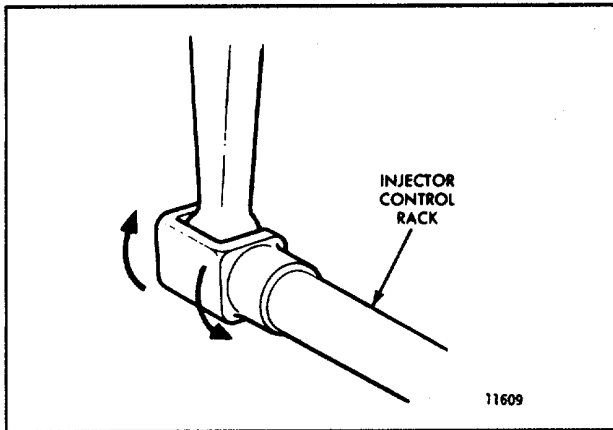
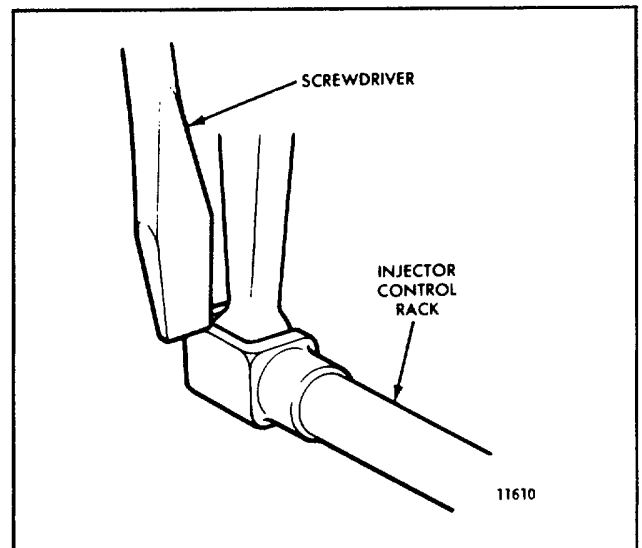

Fig. 4. - Checking Rotating Movement of Injector Control Rack
Fig. 5. - Checking Injector Control Rack "Spring"
7. To be sure of the proper rack adjustment, hold the speed control lever in the maximum speed position and press down on the injector rack with a screwdriver or finger tip and note the "rotating" movement of the injector control rack (Fig. 4). Hold the speed control lever in the maximum speed position and, using a screwdriver, press downward on the injector control rack. The rack should tilt downward and when the pressure of the screwdriver is released, the control rack should "spring" back upward (Fig. 5).